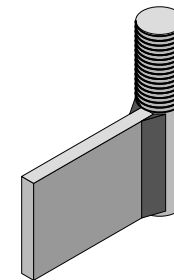
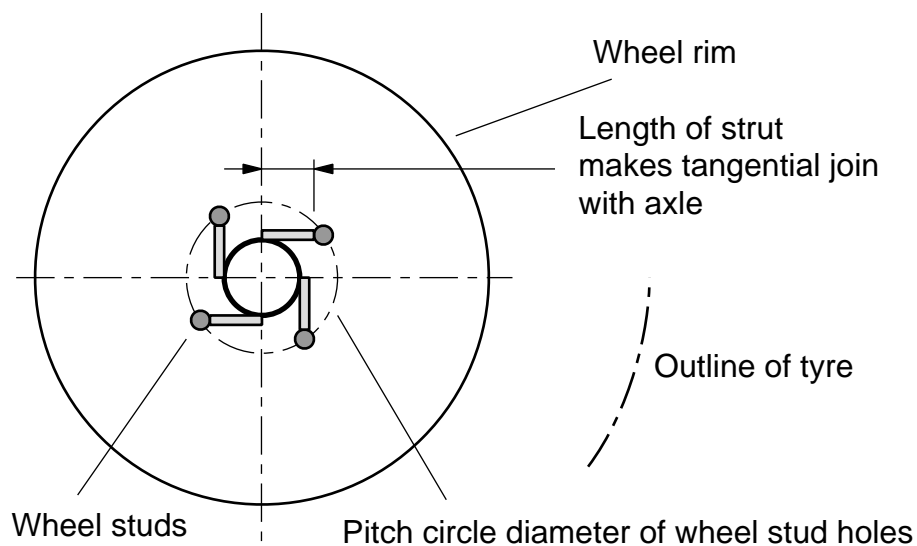

Figure 5: a welded wheel stud and strut fabrication.
Figure 6: length of wheel strut.
- 2) Start by making the wheel stud struts shown in Figure 5. You need to make one of these struts for every stud hole in the wheels you are going to use. Figure 6 shows how to measure the length of the struts. The struts are made from 6x40 flat bar and M12 bolts 50mm long. The flat bar should be long enough so that it meets the axle tube tangentially as shown in Figure 6.
- 3) Once you have made these struts, screw a nut onto each one until it touches the 40x6 metal. Then put the thread through the hole in the rim and screw another nut onto the thread. Tighten this nut lightly with a spanner. Repeat for all the struts so that they all point the same way round the axle, as in Figure 6, and leave a gap for the axle.